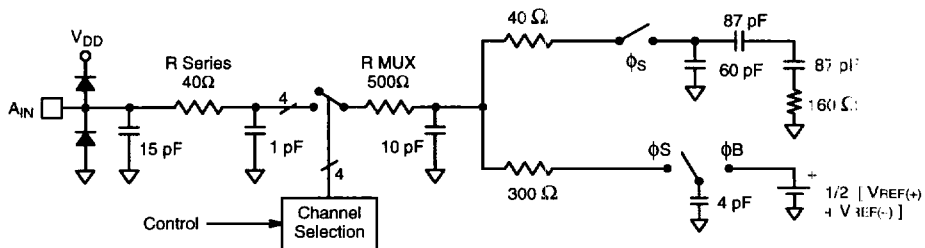

Figure 9. Analog Input Equivalent Circuit
- 3 See V_{IN} input equivalent circuit (see Figure 9).
Good driving capabilities (low resistance, high current) of circuitry driving the flash analog input are guaranteed to optimize the MP8798 performance. Figure 9. shows the equivalent circuit for A_{IN} .